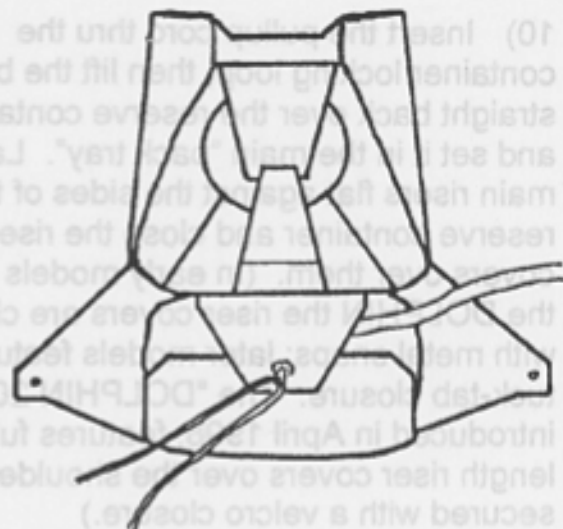

FIG. 13
12) Keeping the bridle to the right, close the top flap (FIG. 13).